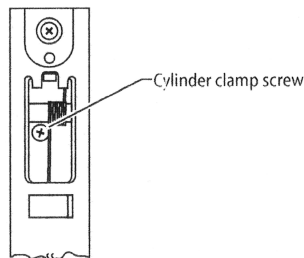

Figure 2 Loosening the cylinder clamp screw
- 1 Loosen the cylinder clamp screw in the front edge of the mortise lock and remove the old cylinder. See Figure 2.
- 6 Tighten the cylinder clamp screw as shown in Figure 2.